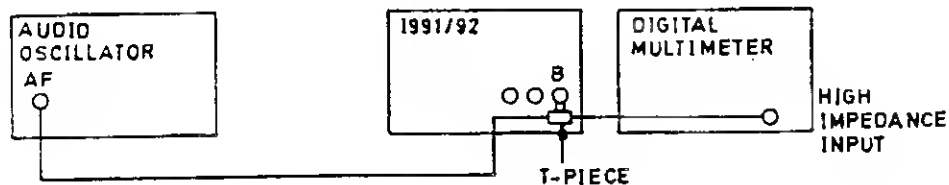

Figure 6.30 - Connections for Channel B Sensitivity PVP (II)
- Connect the test equipment as shown in Figure 6.30